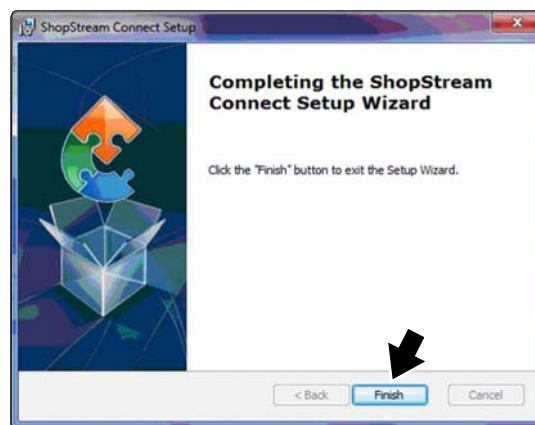

Figure 3-6 Typical Complete screen
6. Select **Finish** to close the Install Wizard when prompted (Figure 3-6).